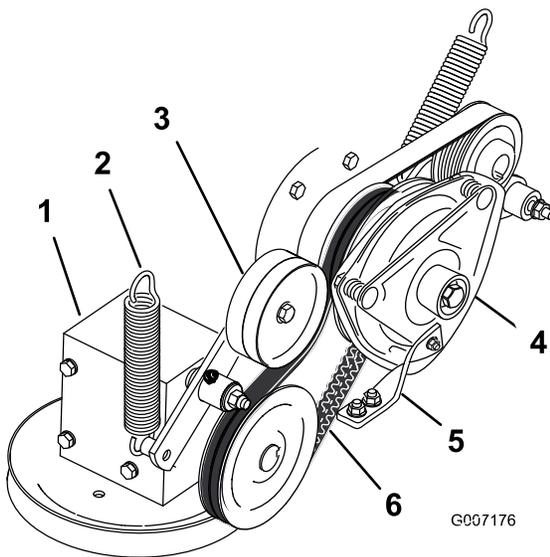

Figure 61
4. Remove the spring from the idler arm (Figure 61).
7. Install the PTO drive belt around the clutch pulley and the gearbox pulley (Figure 61).
9. Install the spring to the idler arm (Figure 61).